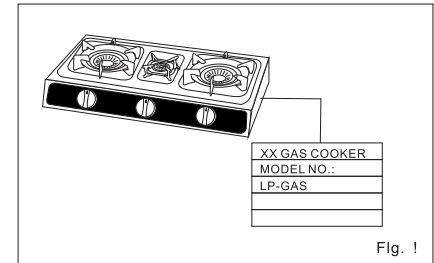

Fig. 1
- Do not use a gas other than that which is specified on the label attached (Fig. 1). **Gas category- LPG: I 3B/P, I 3+; N.G I2H, I2E**